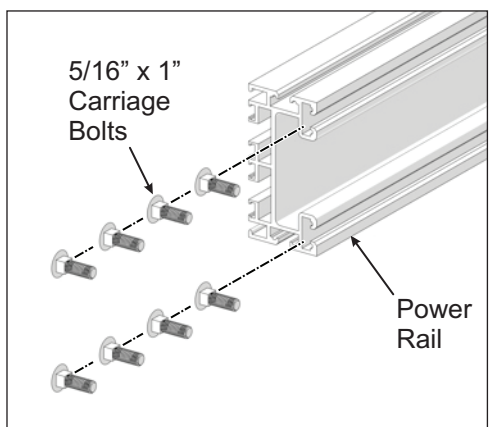

Figure 3-3: Pre-load Carriage Bolts
- B. Pre-load eight 5/16" x 1" carriage bolts into the channels of the Power Rail (four in the upper channel and four in the lower channel). (See Figure 3-3)